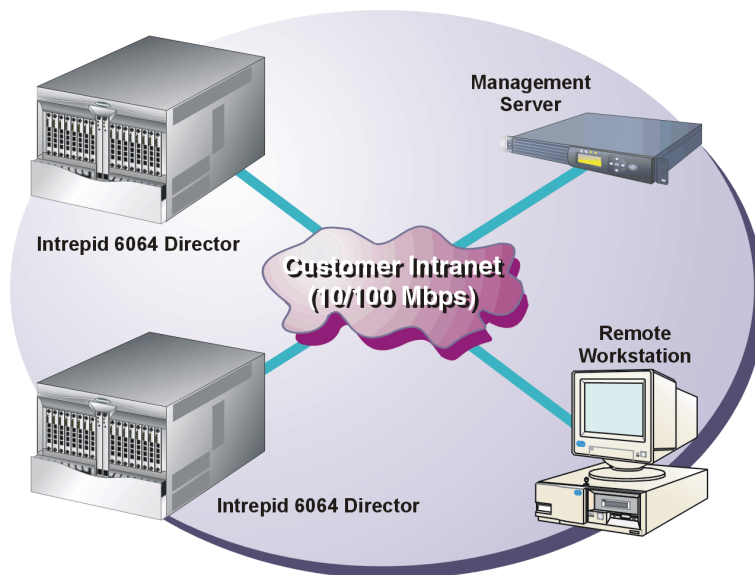

Figure 5-2 Typical Network Configuration (One Ethernet Connection)
- Part of the dedicated 10/100 megabit per second (Mbps) LAN segment that provides access to managed products. This Ethernet connection is part of the equipment cabinet installation and is required. Connection of remote workstations through the hub is optional. This type of network configuration using one Ethernet connection through the management server is shown in Figure 5-2. Intrepid 6064 Directors are used as an example.